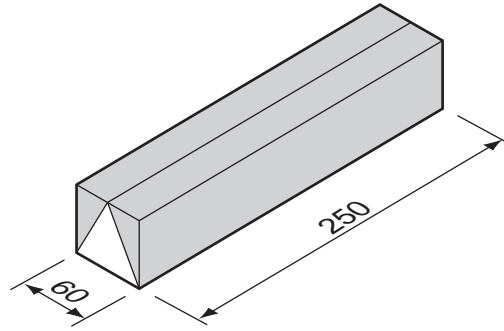

Fig. 6
- (f) Fig. 6 shows the triangular shape marked out on a length of solid wood.